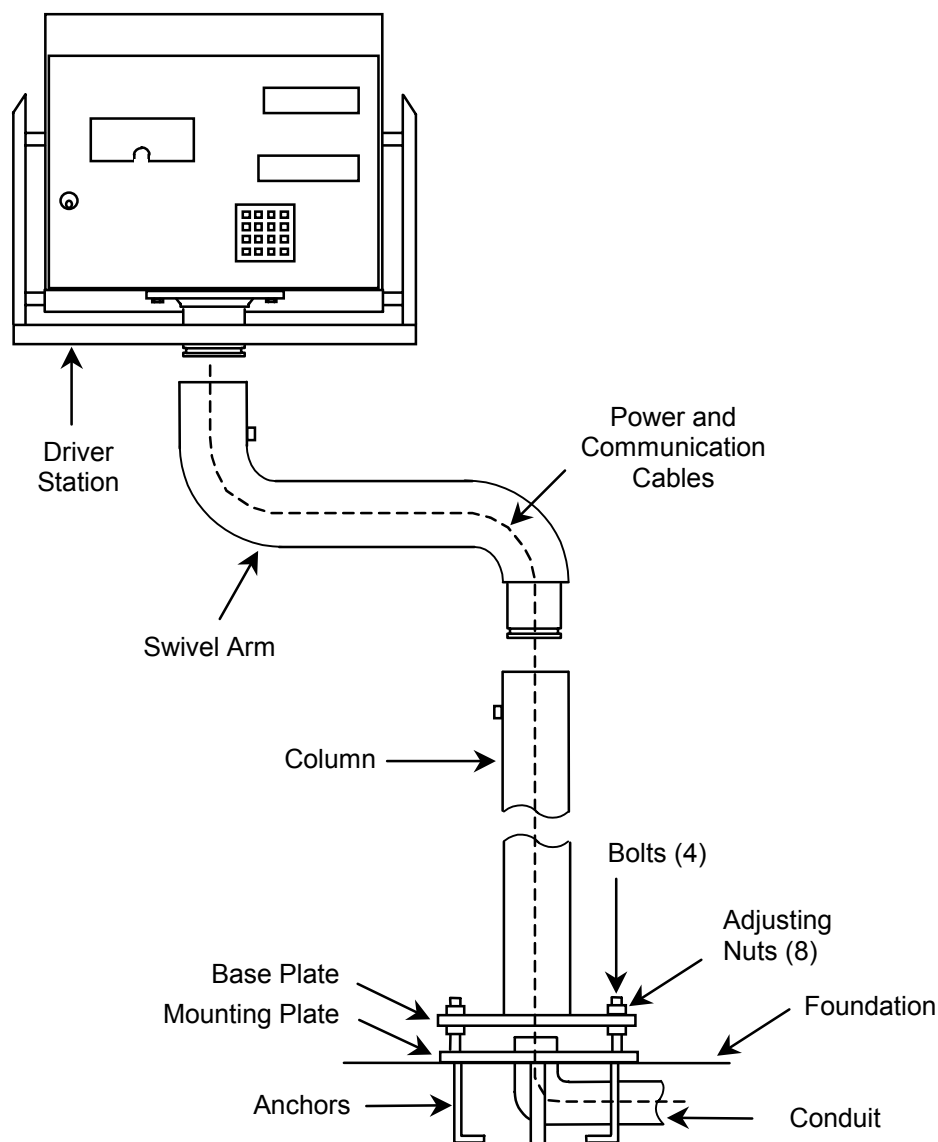

Figure 2-1: Column Mount Installation
If you are using the mounting column, you will need to anchor it to a concrete foundation. The mounting hardware includes (1) a mounting plate, (2) a column with base plate, and (3) an optional swivel arm. These pieces fit together as shown in Figure 2-1.